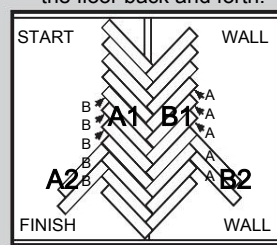

Fig 7.
8. Start at the finish wall and slide the end joint of a "B" plank into the side of an "A" plank. Slide the "B" plank back into the end of the "A" plank at a slight angle until tight (Fig 7.). Note: If you find you're drifting of your center line you can easily move product across the floor back and forth.